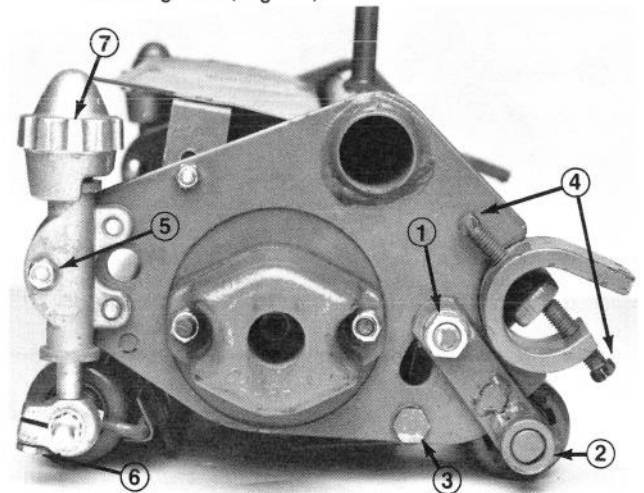

Figure 10
1. Remove capscrew and nut anchoring the rear roller height-of-cut bracket to the side plate on both ends of the cutting unit (Fig. 10).
2. Loosen Allen set screws anchoring the roller shaft (Fig. 10).
4. Remove the bedbar mounting bolts from each end of the cutting unit (Fig. 10). Then loosen the bedknife adjusting screws at each end of the cutting unit (Fig. 10). The bedknife assembly can then be removed by rotating it away from the reel.
1. Loosen the locknuts securing the height of cut adjusting rods at both ends of the cutting unit and the roller shaft clamp bolts (Fig. 10).
2. Turn the height of cut adjustment knobs until they are disconnected from the height of cut adjusting rods (Fig. 10). The knobs are captivated on the upper washer face of height of cut clamp.